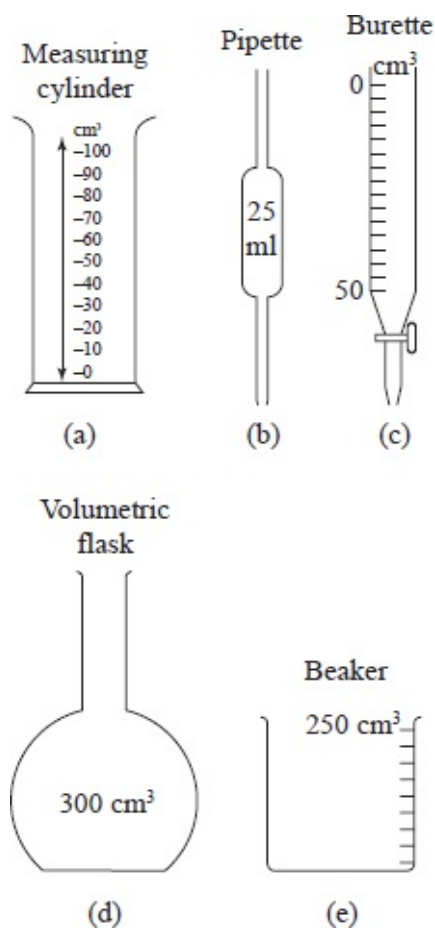
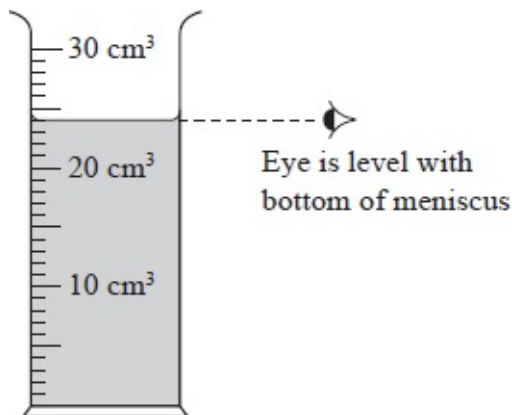

Fig. 2.11: Instruments for measuring volumes of liquids
Fig. 2.12: Reading the measuring cylinder
Measuring cylinders are made of glass or transparent plastic and graduated in cm^3 or ml . Measuring flasks, pipettes, burettes and beakers [figure 2.11 (a), (b), (c), (d) and (e)] can also be used to measure volumes of liquids. Measuring flasks and pipettes are used to transfer known volumes of liquids. The burette delivers volumes of up to 50 cm^3 .
- (ii) While using the measuring vessels shown in figure 2.11, the reading of volume is taken with the eye positioned level with the bottom of the meniscus, see figure 2.12. In the figure, the volume of the liquid is 24.0 cm³.